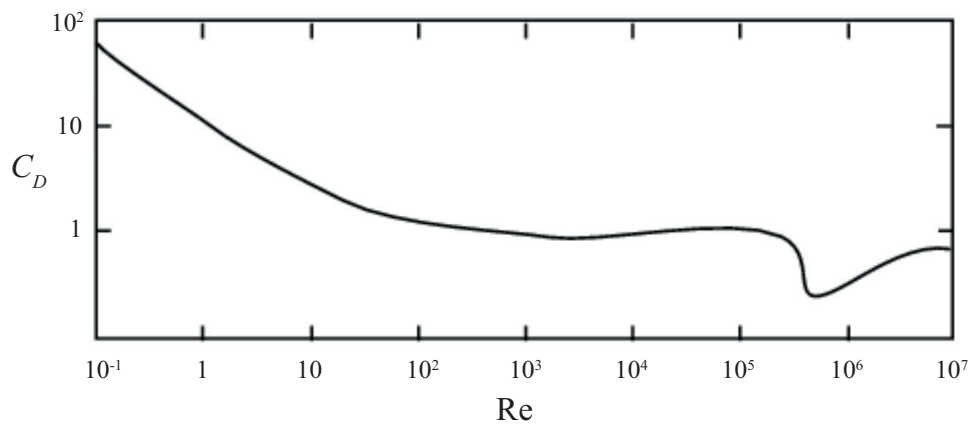

Fig. 3
- (b) The variation in drag coefficient with Reynolds number of a cylinder is shown in Fig. 3.